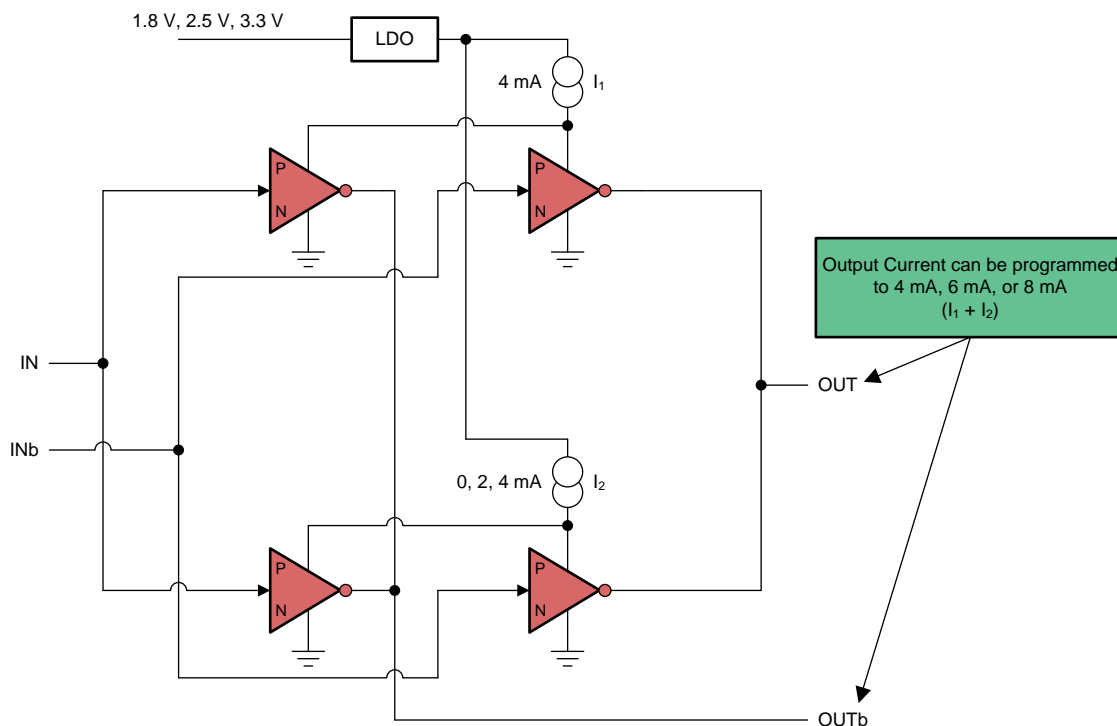

Figure 62. Structure of AC-LVDS, AC-CML, and AC-LVPECL Output Stage
The AC-LVDS, AC-CML, and AC-LVPECL output structure is given in Figure 62 where the tail currents can be programmed to either 4 mA, 6 mA, or 8 mA to generate output voltage swings that are compatible with LVDS, CML, or LVPECL, respectively. Since this output structure is GND referenced, the output supplies can be operated from 1.8 V, 2.5 V, or 3.3 V, and offer lower power dissipation compared to traditional LVDS, CML, or LVPECL structures without any impact on jitter performance or other AC or DC specifications. Interfacing to LVDS, CML or LVPECL receivers are done with just an external AC-coupling capacitor for each output. No source termination is needed since the on-chip termination is automatically enabled when selecting AC-LVDS, AC-CML, or AC-LVPECL for good impedance matching to 50-Ω interconnects.
3. The latency is deterministic and its variation is no more than 1 VCO clock cycle and an example scenario is illustrated in Figure 62.